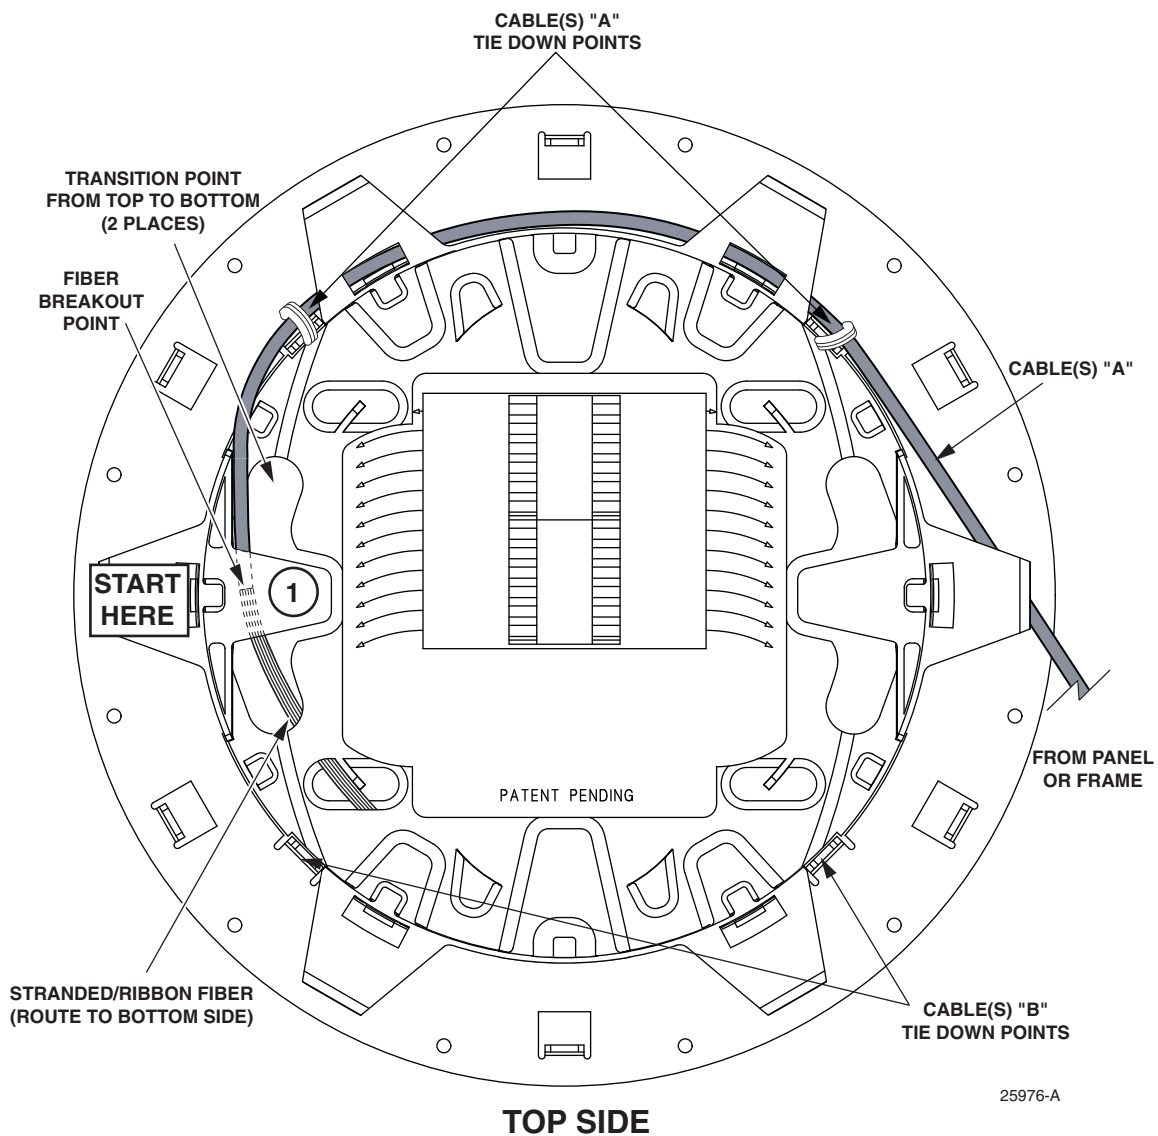
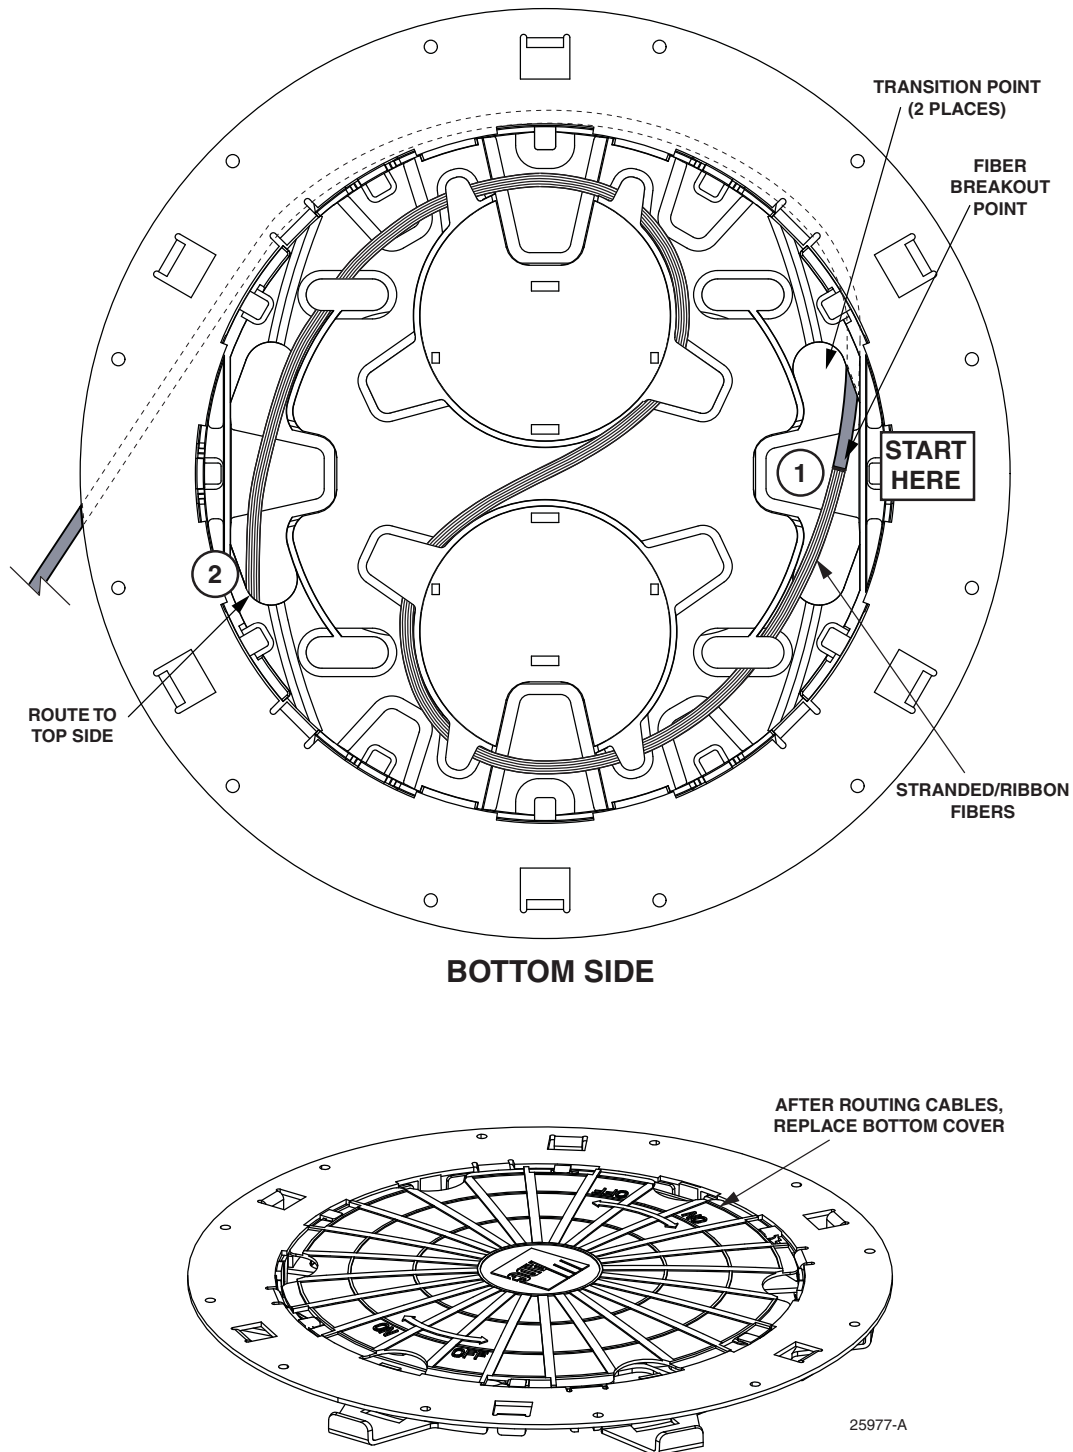
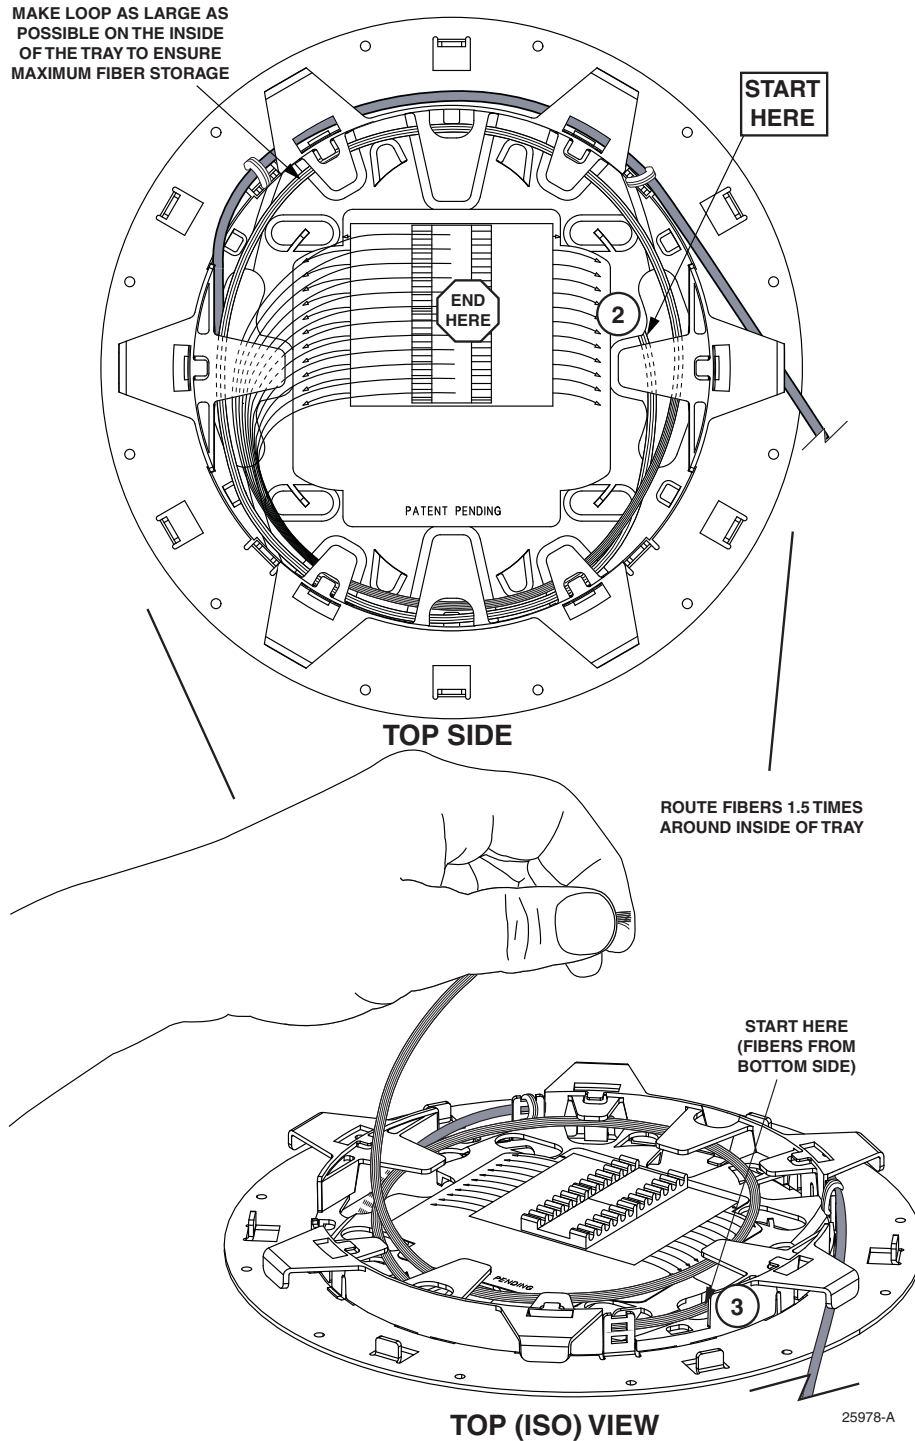

Figure 8. Cable(s) "A" Routing, Top Side (Counter-Clockwise Roll-Up Procedure)
Figure 9. Cable(s) “A” Routing, Bottom Side (Counter-Clockwise Roll-Up Procedure), continued
Figure 10. Cable(s) "A" Routing, Top Side (Counter-Clockwise Roll-Up Procedure), continued
1. Route the cable so the fiber breakout is positioned at the transition point from top to bottom (refer to the "circled 1" in Figure 8). Then route and tie down cable(s) "A" as shown in Figure 8 (If multiple cables are used, route cables simultaneously.)
► **Note:** The circled numbers shown in Figure 8, Figure 9, and Figure 10 are provided as an orientation aid when flipping the cable tray over.
- Flip the tray over and continue routing cable(s) “A” around the spools and back to the top side, as shown in Figure 9. After routing the cable(s) on the bottom side, replace the bottom cover.
3. Flip the tray over to the top side and route cable(s) "A" to the splice tray area as shown in Figure 10. Make sure to route the stranded/ribbon fibers 1.5 times around the inside of the tray making the loop as large as possible to ensure maximum fiber storage.